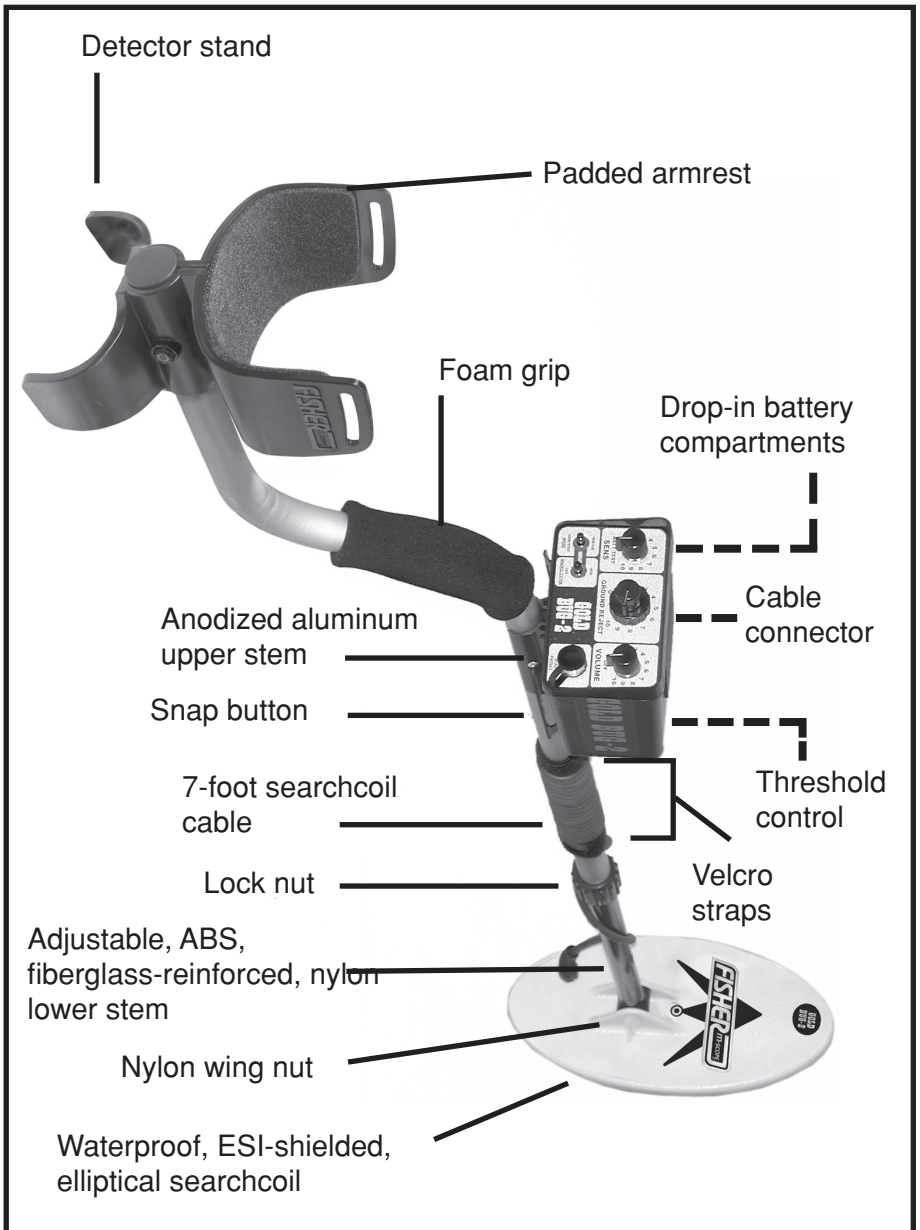

Figure 1. Gold Bug™-2
2. Slip the lower stem into the upper stem (see pg. 5 Figure 1).